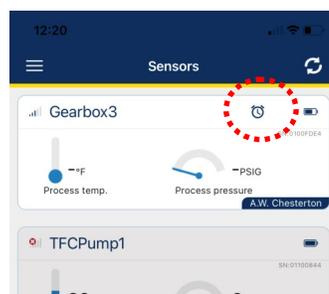

Figure 6
9. In the app main screen, a clock icon will be displayed next to the battery level icon (see figure 6). The clock icon means the sensor needs to synchronize with the app obtain the correct timestamp. To synchronize the time, in the app select the sensor and select "Settings". The sensor blue LED lights will blink and the clock will be synchronized.